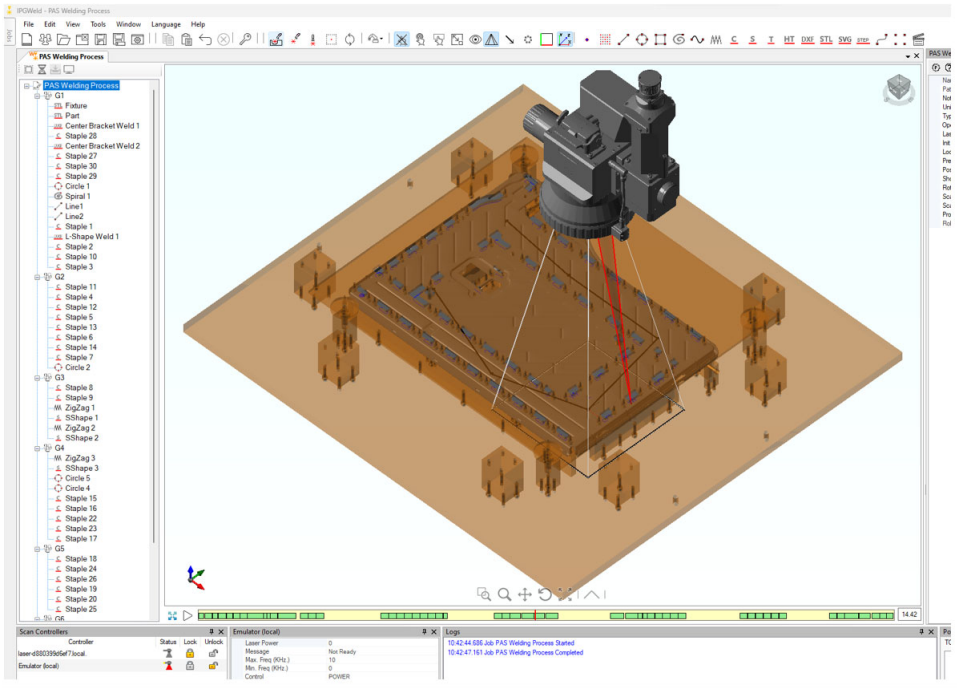

Figure 346: Process Visualization
15. After the process has been dry run, users can close the Processing Window and visualize the process. See Figure 346 on page 312.